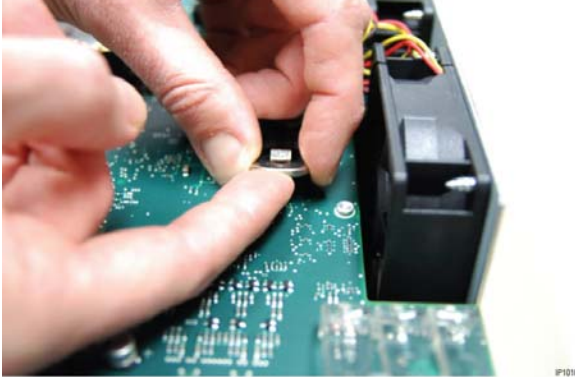

Figure 59: Removing the Battery
- Pry up the battery and slide it out from its holder as shown in Figure 59.